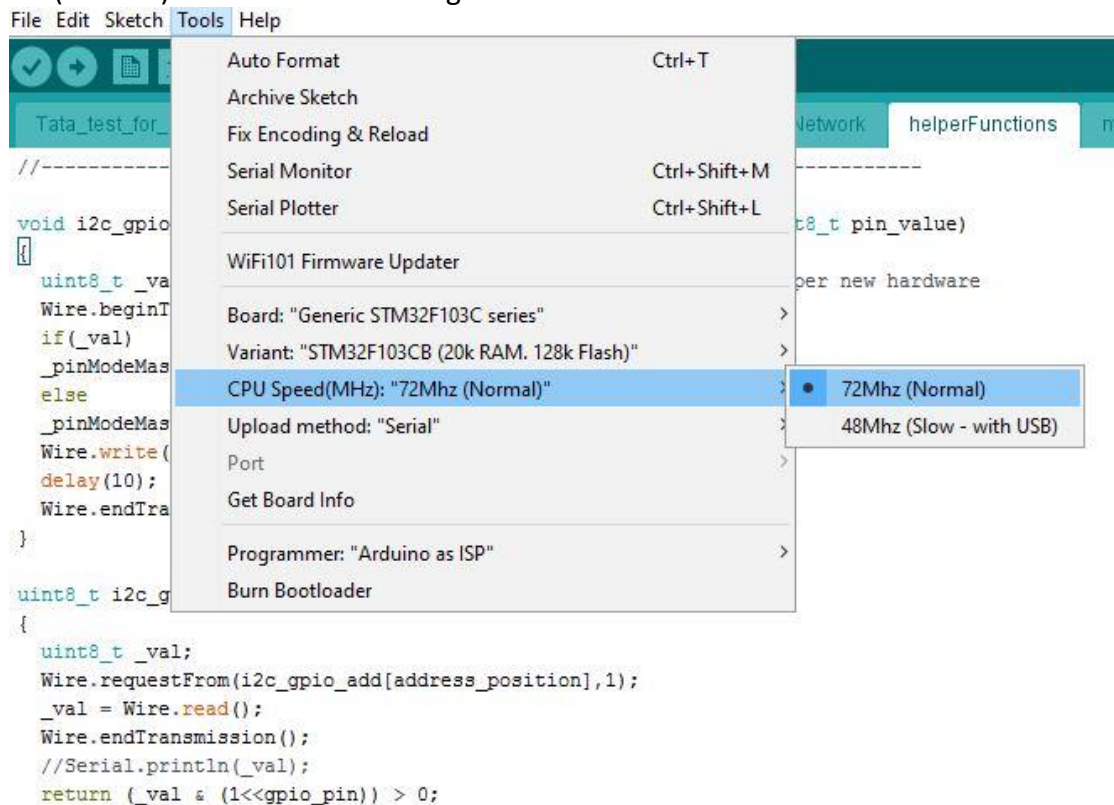

Figure 7: CPU Speed selection
- Click on tools tab, move mouse pointer to “CPU Speed(Mhz): xxxx”, under this click on “72Mhz (Normal)” to select. Refer to figure 7